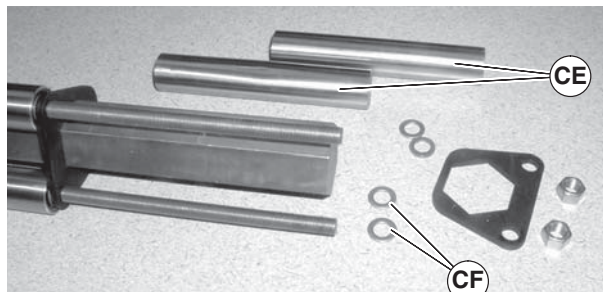

Figure 59
- Remove pulleys (Figure 59, item CE) and additional washers (CF).